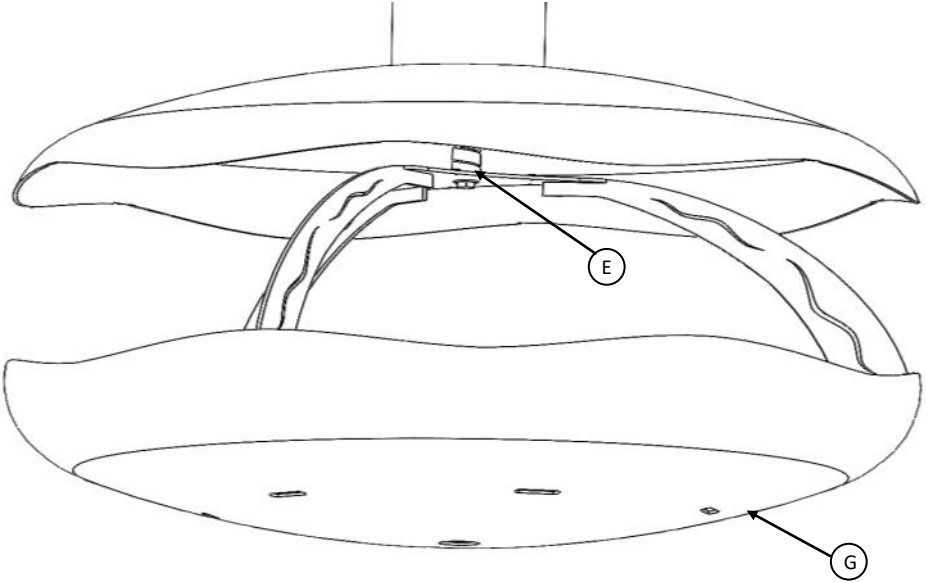
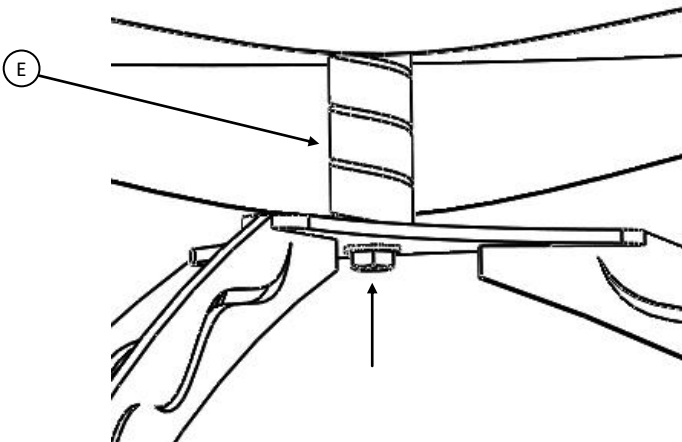

**Figure 4**— Assembly representation
**Figure 5**— Assembly representation
Then, place an upper part of the fireplace (F), figure 4, and sweep the rod (E), figure 5.